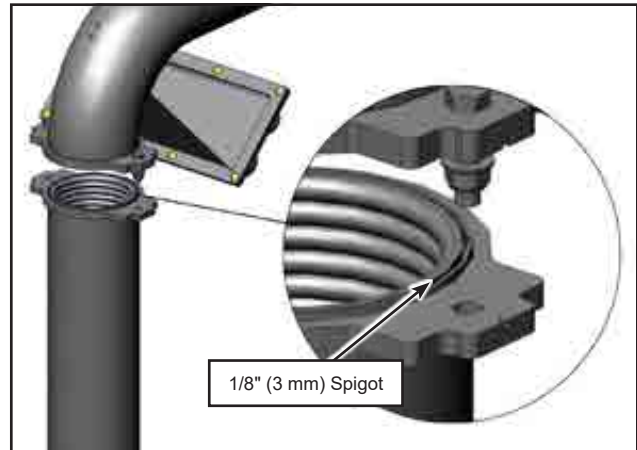

Figure 1.19 - Spigot Location
- d. There is a 1/8" (3 mm) spigot on the vertical pipe that the elbow will lock over top of. Refer to Figure 1.19.